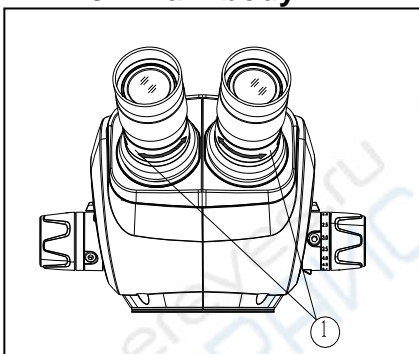

Fig 3
3.2.1. Interpupillary Distance Adjustment (Fig.3)